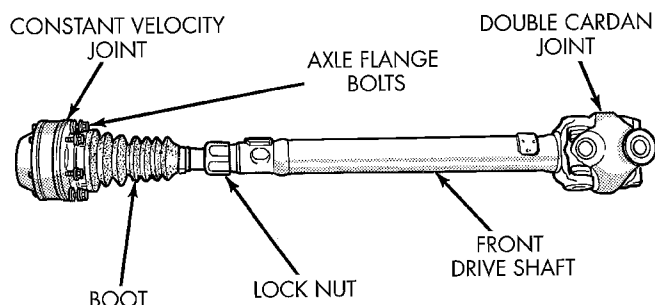

Fig. 35 Lock-nut
(3) Loosen the lock nut and adjust the distance by moving the end of the shaft in or out of the other end.
(4) When the shaft is adjusted to the correct length of 142.7 mm (5.61 in.), tighten the lock-nut (Fig. 35) to 115 N·m (85 ft. lbs.).